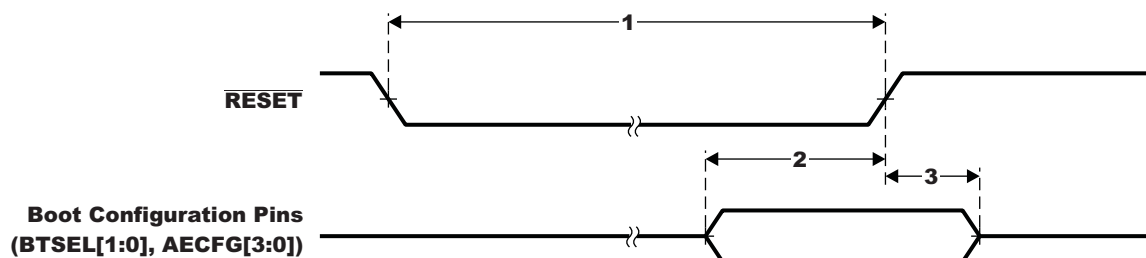

**Figure 5-4. Reset Timing**
**Table 5-2. Timing Requirements for Reset (1) (2) (see Figure 5-4)**